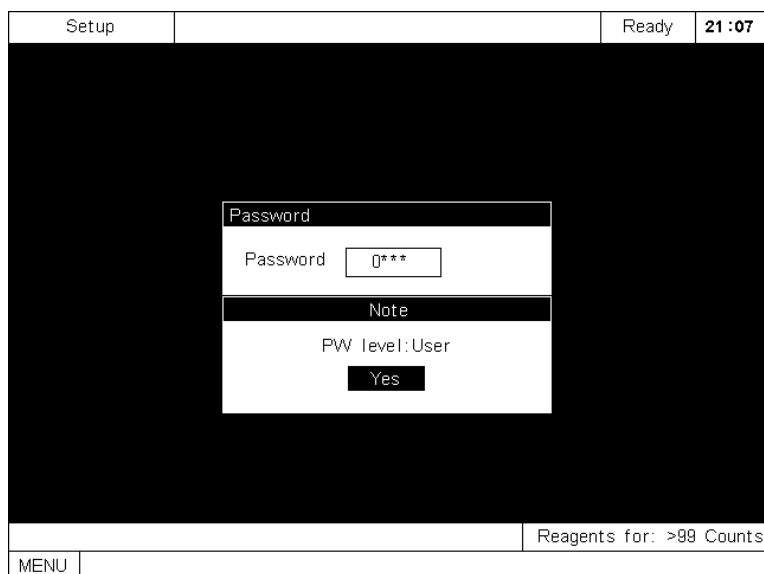

Figure 7-4 Obtaining common user authority
8. Press [ENTER] to save this password to the system, as Figure 7-4 shows.